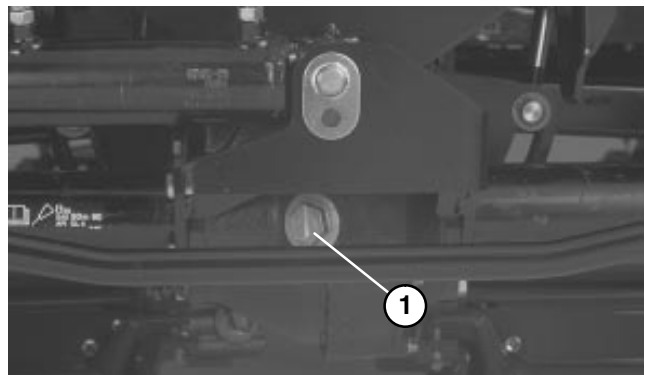

Figure 20
1. Check Plugs (2) 2. Mounting Bolts
3. Remove plug in center of axle and check level. If level is low, add enough lubricant to bring the level up to the bottom of the hole (Fig. 20).